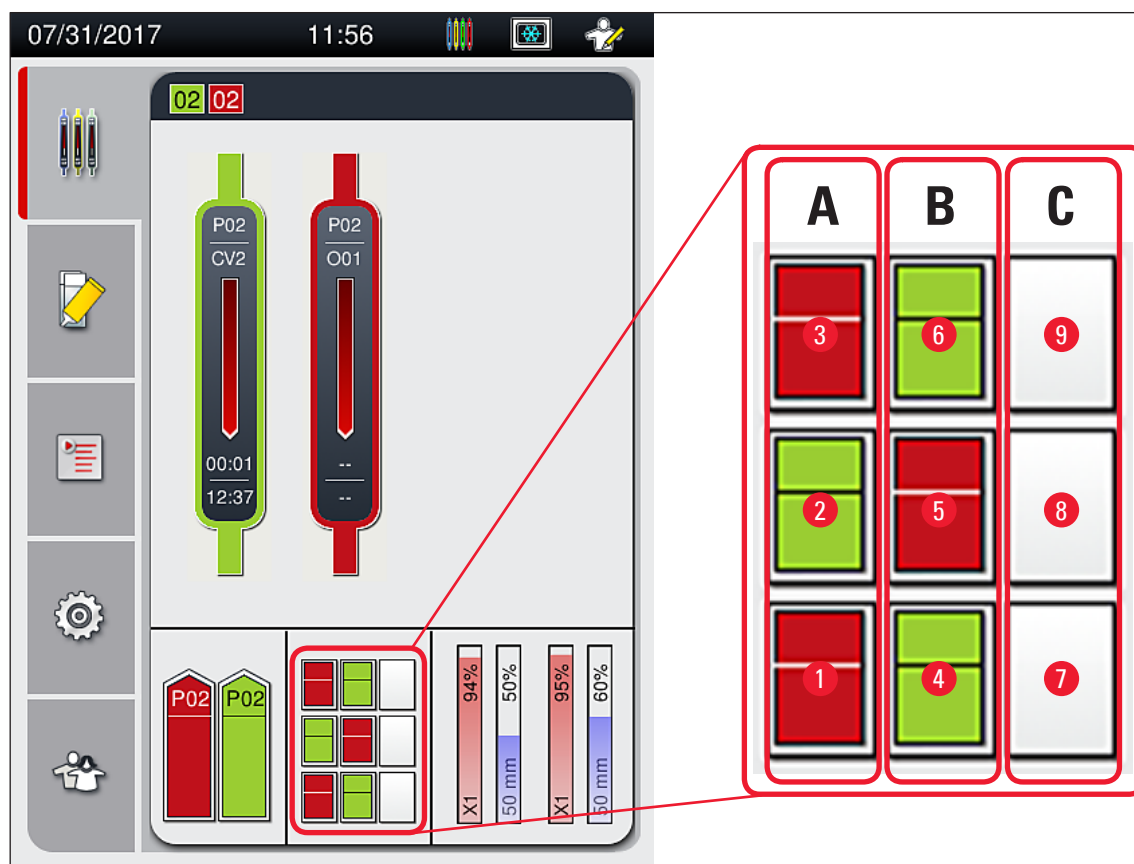

Fig. 75
- The unload drawer can hold up to 9 racks. The racks are placed in the unload drawer in the sequence shown from A1 to C9 (→ Fig. 75).